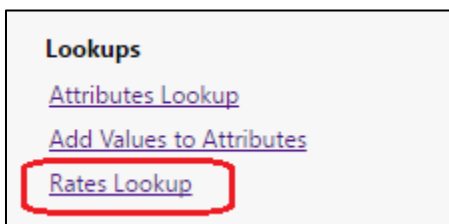

Figure 15.
- 1) Click Rates Lookup. See figure 15.